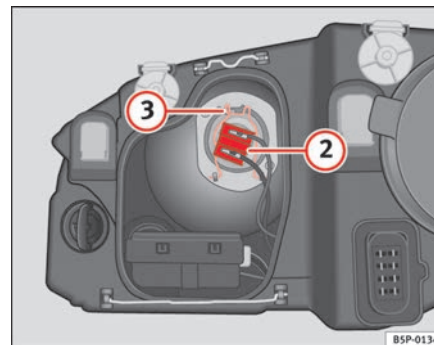

Fig. 185 Dipped head-lights
- Remove the connector ⇒ page 256, fig. 185 ② from the bulb.
- Disengage the retainer spring ⇒ page 256, fig. 185 ③ pressing inwards and to the right.